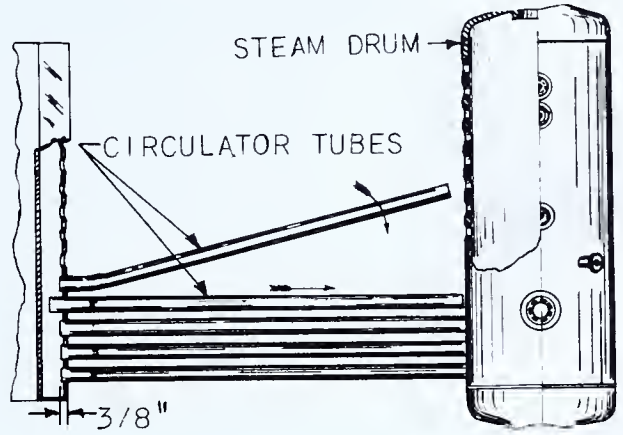
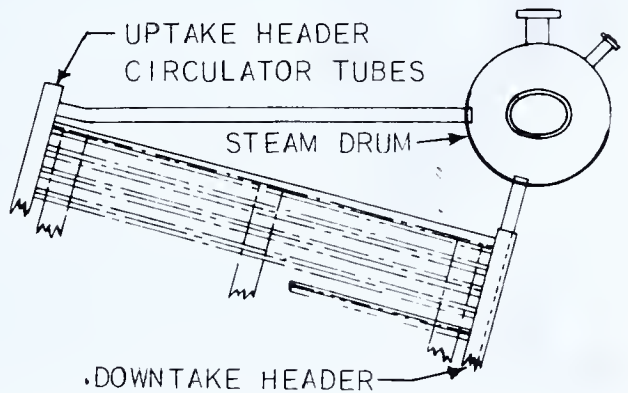
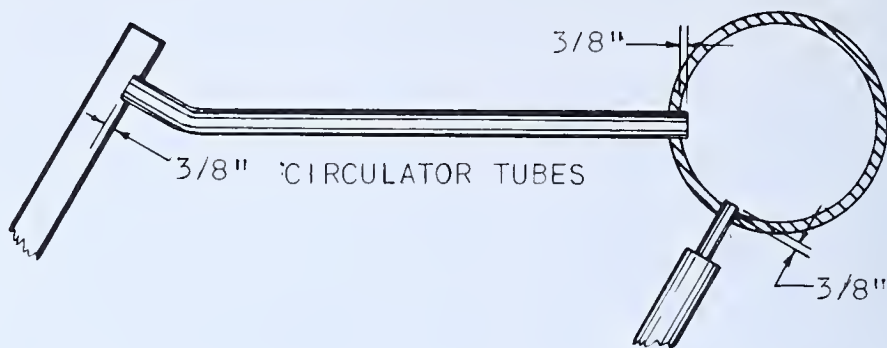

FIG. 489 — Top View of Circulating Tubes
FIG. 490 — Side View of Circulating Tubes
FIG. 491 — *The Circulator Tubes Project into the Uptake Headers and the Steam Drum  $\frac{3}{8}$ "*
13. Measure for the length of the two circulator tubes. See Fig. 491 for the correct procedure.
22. Insert the bent end of the circulator tube in the end opening of the steam drum and the end section of the uptake header. See Fig. 489. Roll the tube from a horizontal position as shown by the arrow. When the tube reaches a position where the straight end is fair with the opening, insert it in the steam drum. See Fig. 490. Figure 491 gives the correct distance the tube projects inside the steam drum.